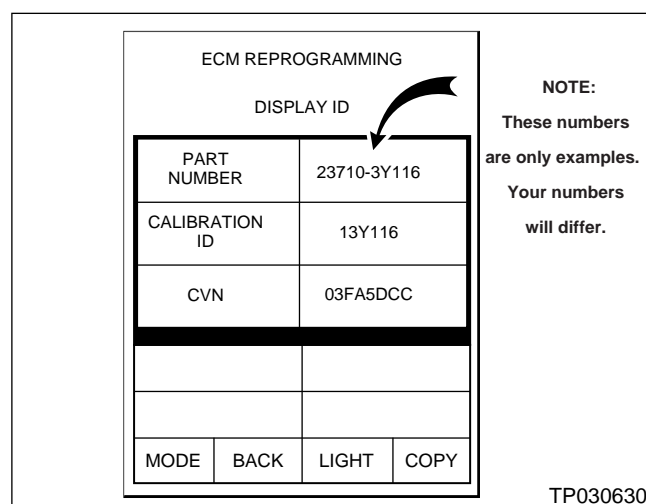

Figure 15
21. Press **CHECK ECM P/N** to “confirm” (take note of) the current ECM part number (see Figure 15).